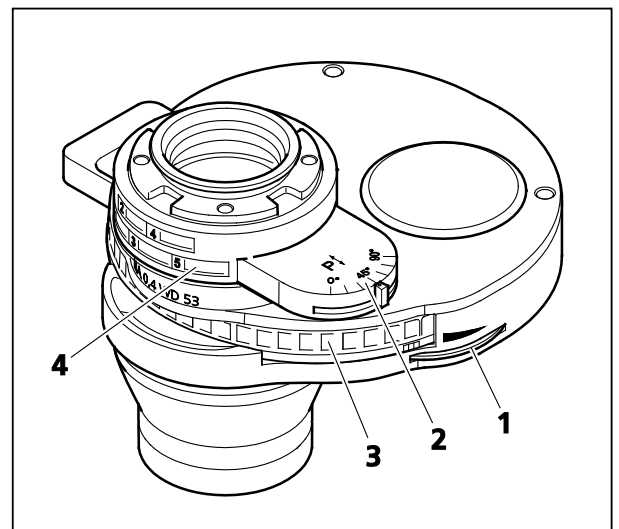

Fig. 2-18 LD Condenser 0.4 for H Ph PlasDIC DIC iHMC with Insertable Polarizer Slider DL, Rotatable 90 Degrees
- Condenser with an adjustable aperture diaphragm (Fig. 2-18/1) for the bright field position (position 1 of the modulator disk, while the aperture diaphragm is completely open for all the other positions of the modulator disk)
- Five-position modulator disk (Fig. 2-18/3) and slot for polarizer slider (Fig. 2-18/2)
- Spaces for stickers (Fig. 2-18/4) showing the designations of the slit diaphragms, phase stops or condenser modules installed